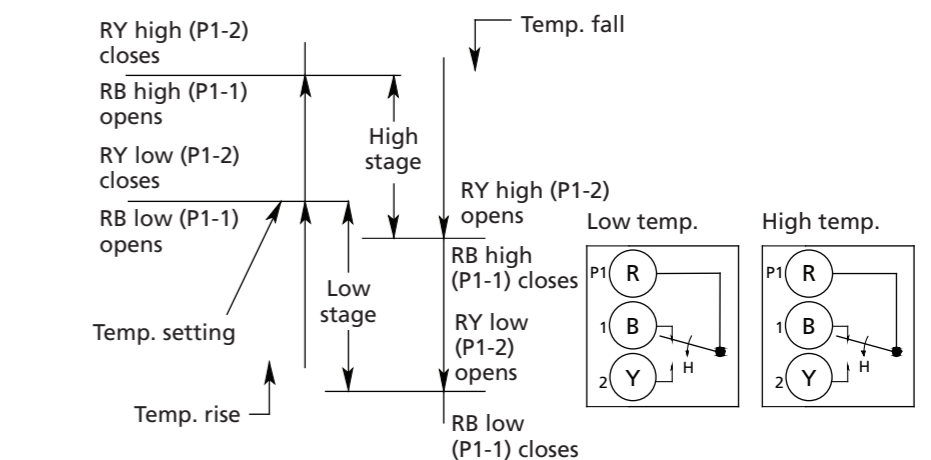

Figure 8 - Operational Sequence of Two-stage SPDT/SPDT Thermostats
Figure 8 illustrates the operation of thermostats with SPDT/SPDT 2 Stage switching. On a temperature increase to the knob setting, the circuit between R (P1) and Y (2) of the low stage switch (RYL) closes. Simultaneously the circuit between R (P1) and B (1) (RBL) opens.